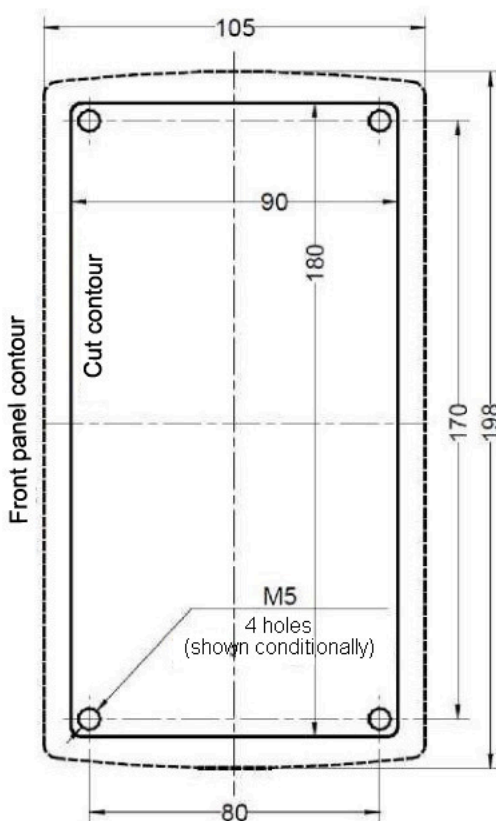

Fig. 1 Markup for installation of the outdoor panel
2. Prepare a niche for installing the outdoor panel (see the markup in Figure 1).